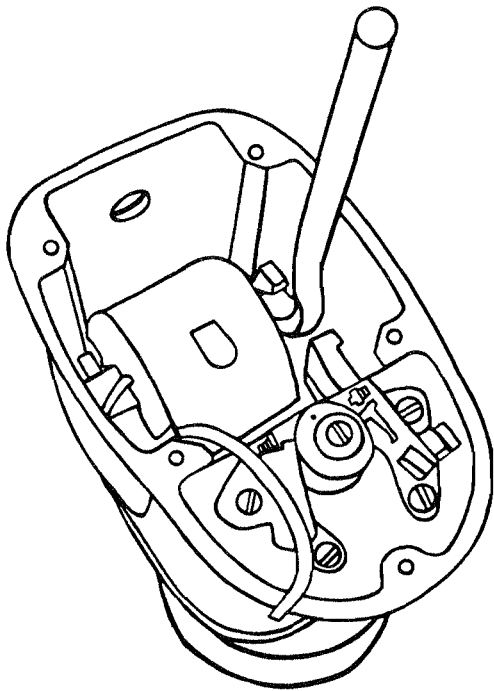

Figure 401. Removing Coil Wedges From Housing
- A. Remove screws (9) and lift capacitor (10) from cover (6). Slide packing (11) off capacitor (10). If retard lead (13) is installed, remove screw (12), washer (14), bushing and nut (3), securing lead (13) to cover (6).
- B. Pull out fish paper strip (28) which holds lead of coil (36) away from distributor gear. Remove clip (28), if used. Disconnect terminal of coil lead from main contact assembly (30). Using a pry bar approximately 12 to 16 inches long (similar to the one shown in Figure 401), pry out and discard wedges (35) which secure coil (36) in housing (72). Lift coil (36) from housing (72).